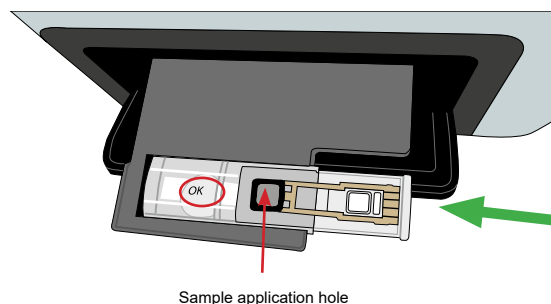

Figure 16. Labmaster LUCIA™ cassette loading
12. Slide the Labmaster LUCIA™ Vet test cassette onto the tray. See Figure 16.